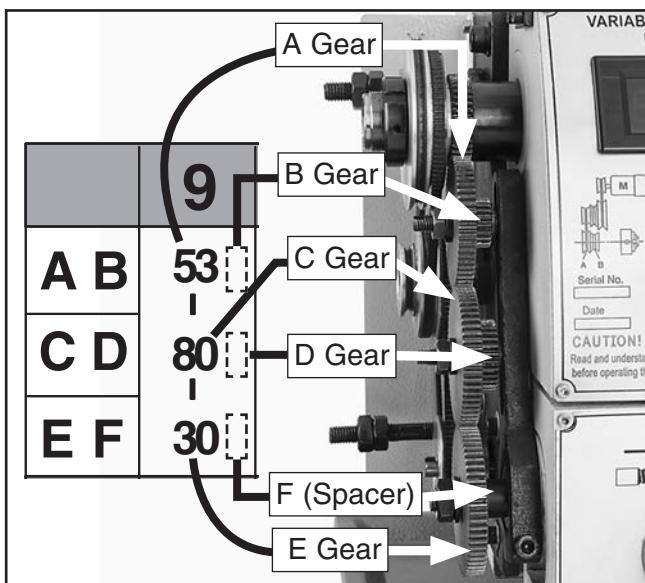

Figure 73. Secondary threading configuration.
This threading configuration is used for a different range of inch threads. Mesh the A, C, and E gears, as shown in **Figure 73**. The A/B, and C/D gears each share a keyed bushing. The B and D gears (e.g. 20T or 30T) function as spacers since they do not mesh with other gears. A spacer (F) is installed on the lower shaft behind the E gear.